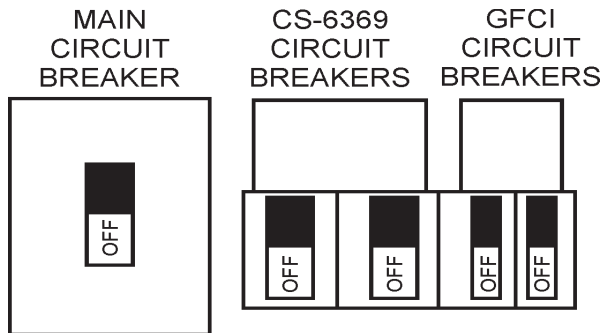

Figure 28. Main, Aux. and GFCI Circuit Breakers (OFF)
1. Place the **main, G.F.C.I.,** and **aux.** circuit breakers (Figure 28) in the **OFF** position prior to starting the engine.